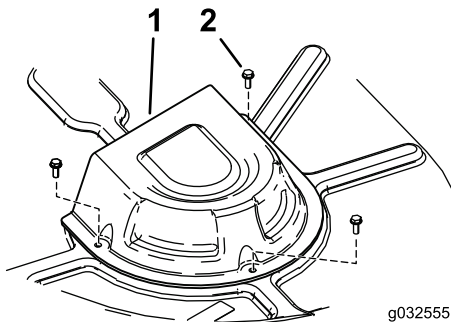

Figure 63
4. Remove the pulley covers (Figure 63).
8. Install the pulley covers (Figure 63).